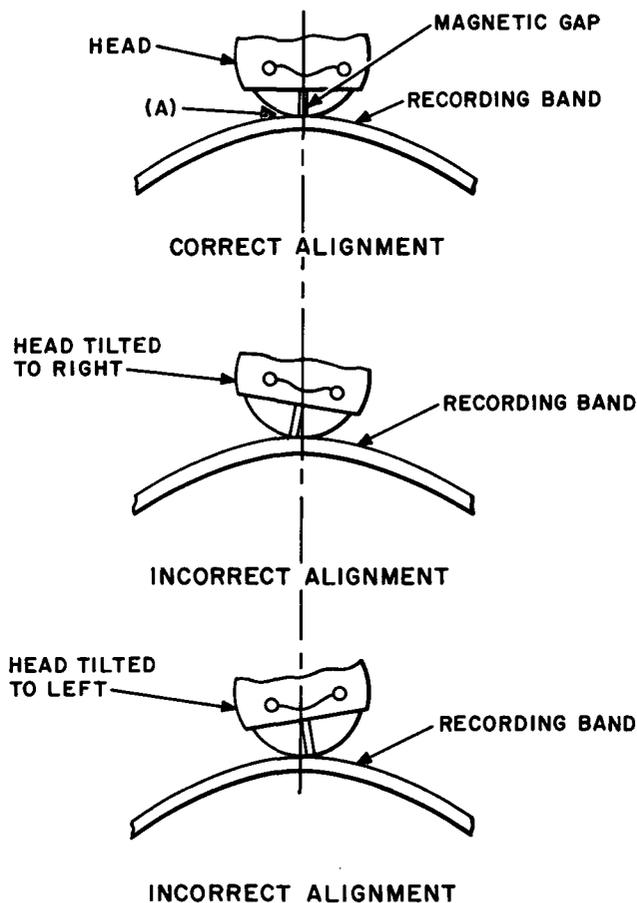

Fig. 4—Position of Magnetic Gap of Head on Recording Band
The record and erase heads shall be positioned so that the magnetic gap in the pole piece lies tangent to the cylindrical recording band while the head rests upon the band in its normal operating position as shown in Fig. 4(A) and 5(A). The erase head has a wider magnetic gap than the record head and is effective over a wider area. Its position is gauged by eye. The record head is aligned by means of a 1000-Hz test tone which is available at associated announcement systems. Detailed procedures are covered in (a) for L5 and L6 machines (except the L6 machine used in No. 1 ESS), in (b) for the L6 machine used in No. 1 ESS, and in (c) for the L4 machine. To check this requirement on L7 machines, refer to the appropriate section covering the 2A or 3A ACD system.